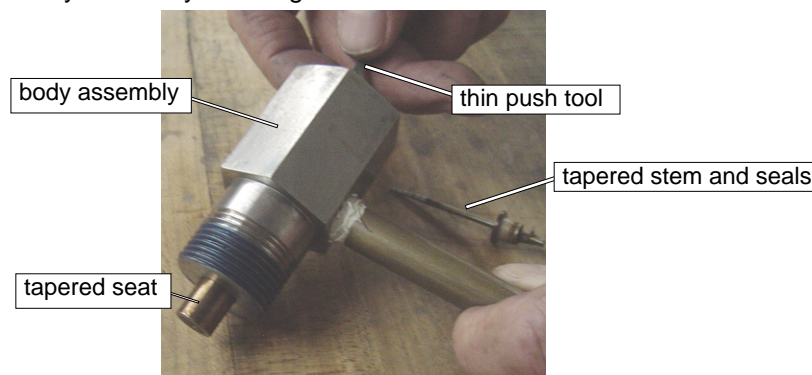

Figure 10: Push Tapered Seat and Erosion Shield out of Body Assembly
4. Using a thin diameter tool such as a small Allen wrench, push out the tapered seat and erosion shield from the body assembly. See Figure 10: